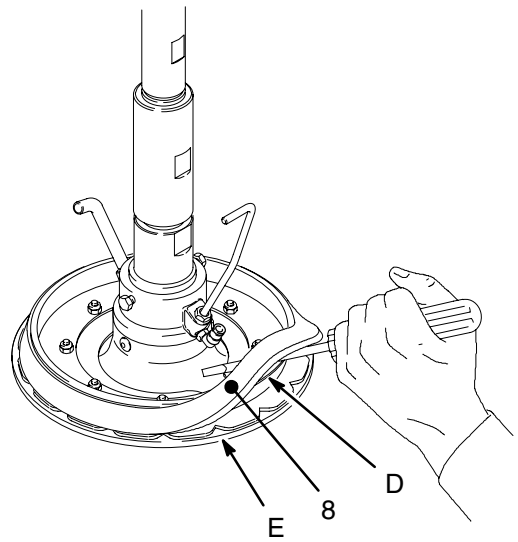
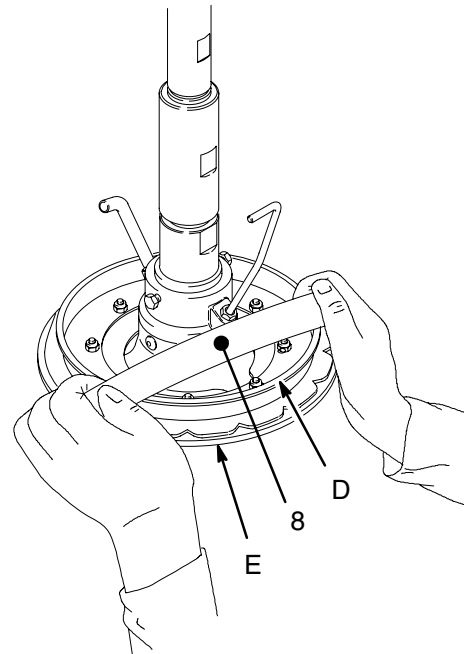
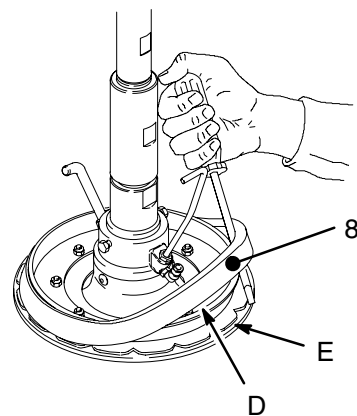

Fig. 10
Fig. 11
Fig. 12
- a. **To use the wiper plate with tapered pails**, the large spacer (8) must be removed. *Working from the bottom*, use a screwdriver to pry the spacer loose. Work it upward so it is completely above the flange (D) of the wiper plate. See Fig. 10. Next, by hand, angle the spacer and work it off the plate, pulling it down over the flange and bottom wipers (E). See Fig. 11. Save the spacer, as it is required for other applications.
- b. **To reinstall the spacer for use with a straight sided pail**, first make sure the large diameter of the spacer (8) is facing **down**. Work the spacer up over the wiper plate by hand, so it is completely above the flange (D) of the wiper plate. See Fig. 11. Then, *working from the top*, use a screwdriver to position the spacer between the flange (D) and the wipers (E). See Fig. 12.
4. Connect a 965 mm (38 in.), 6.3 mm (1/4 in.) OD tube (F) from the ram's air assist valve (G) to the elbow (H) on the wiper plate.
To use Model 222909 Plate with a tapered pail, the spacer (8) must be removed. See page 10, and Figs. 10–12.